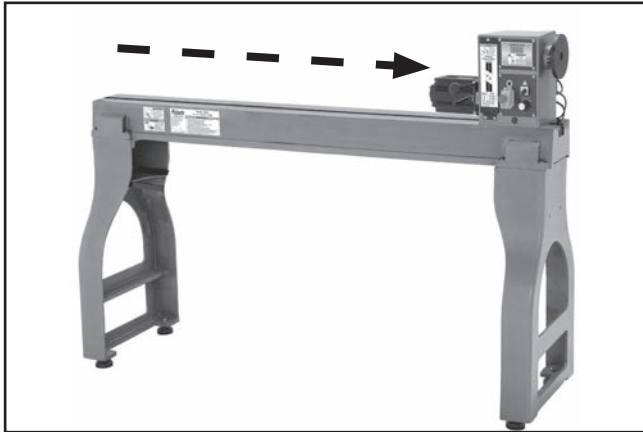

Figure 39. Example of lathe prepared for outboard turning.
3. Loosen headstock, then move it all the way to tail end of lathe bed, as shown in **Figure 39**.